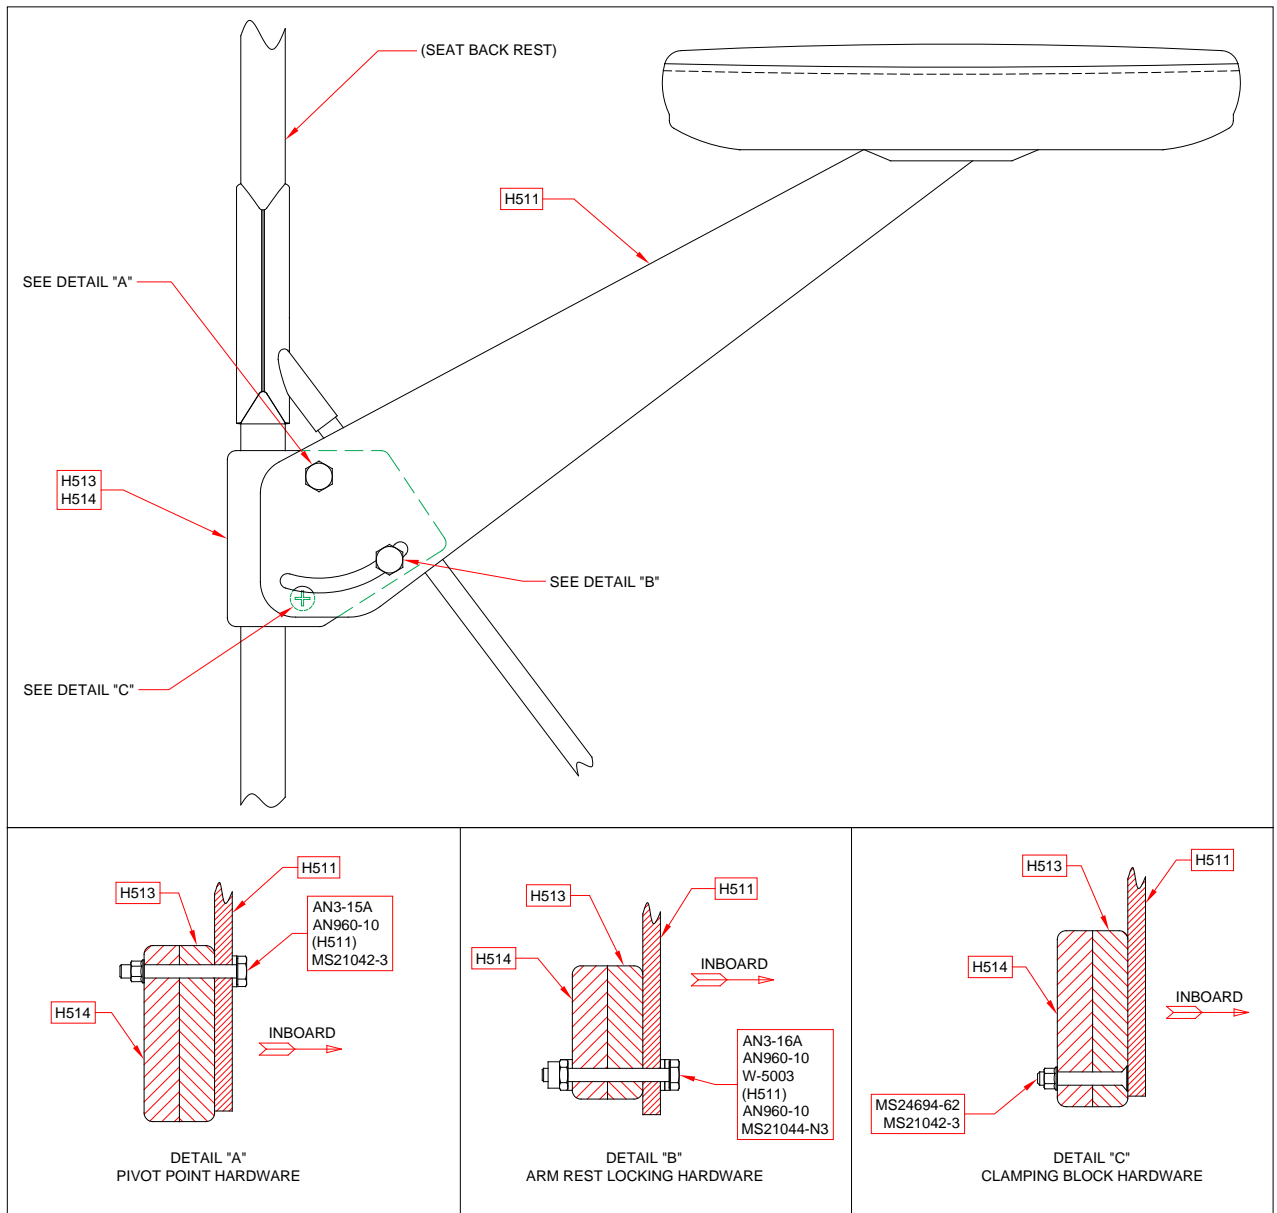

FIGURE 1
The arm rest is to be installed on the pilot seat back rest frame using the hardware supplied in the kit as shown in Figure 1.
- 1) Peel back the back rest cover and install the two nylon blocks (H513 & H514) on the inboard side of the pilot seat as per Figure 1. Secure the blocks to the back rest frame using the countersunk screw provided in the kit. (See Figure 1 Detail “C”).
- 3) Reposition the seat cover and install the arm rest assembly over top of the seat cover as shown on Figure 1 Detail “A” and Detail “B”.